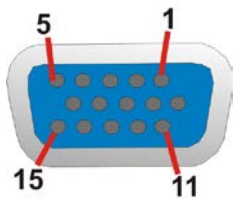

Figure 3-30: VGA Connector
- CN Pinouts:** See **Table 3-34** and **Figure 3-30**